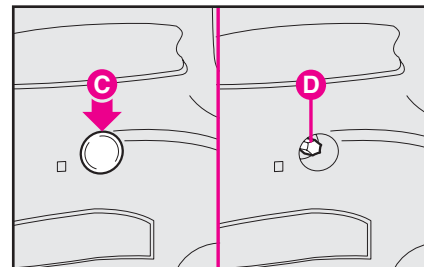

fig. 27
1) Act from inside the vehicle to remove upper plastic cap **C-fig. 27** by means of the screwdriver available, so that light cluster fastening bolt **D** is made visible.